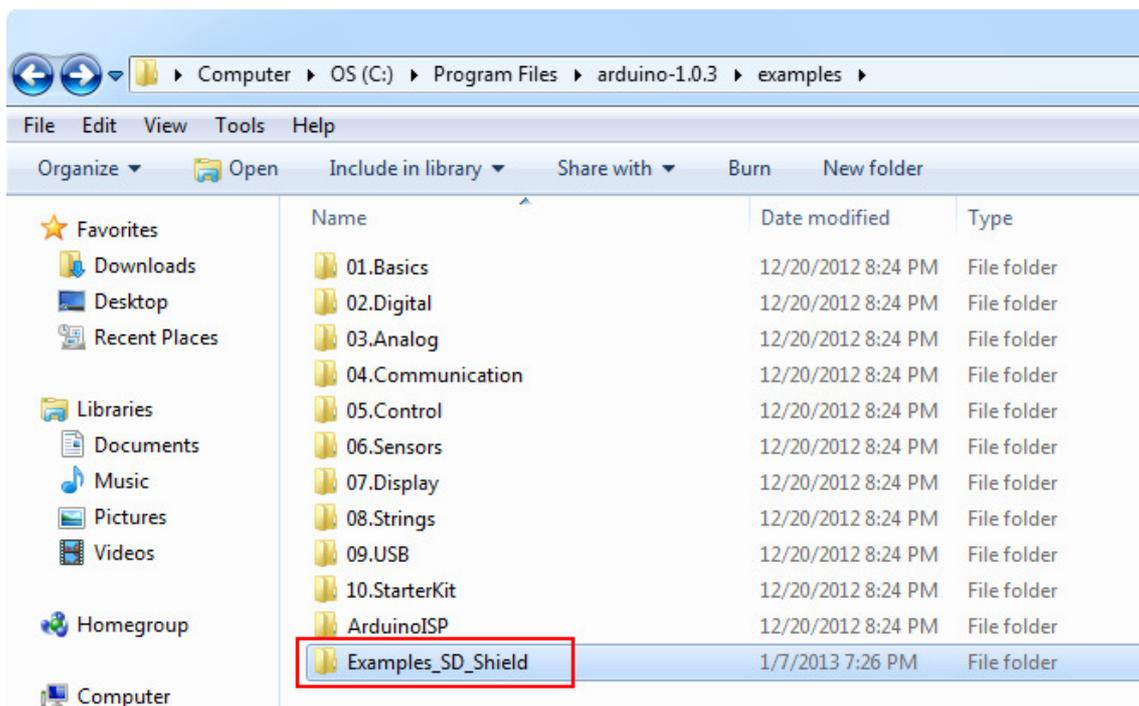

Figure 8.
5. Then copy example programs of the SD Card Shield Plus from a free CD is choose folder “Examples\_SD\_Shield” into drive “C:\Program Files\ arduino-1.0.3\examples” as figure 8.